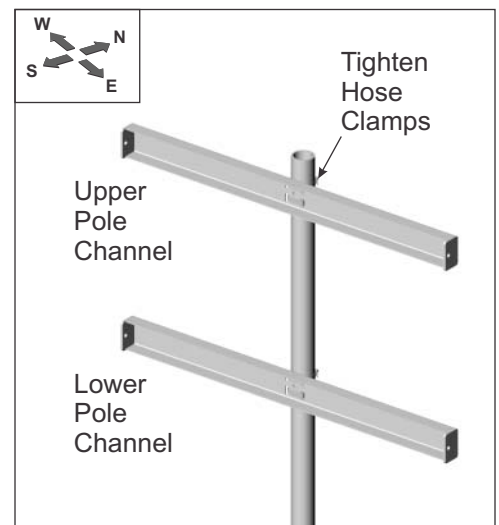

Figure 1-4: Installing Upper Pole Channel
- F. Rotate the Pole Channel so it is facing south. (See Figure 1-4)